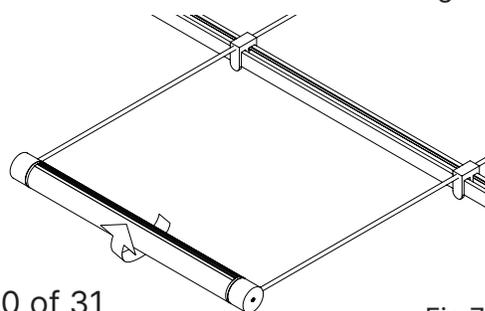

Fig. 7
2. Insert **Luminaire** onto **Hangers** and secure with **Set Screws** (Fig. 7). **Note: Luminaire can rotate 360° (Fig. 7)**